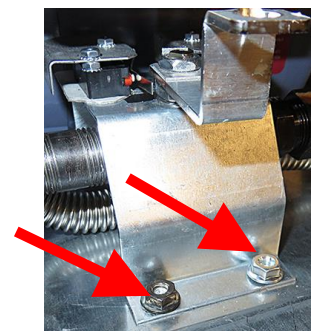

Figure 29
33. Use a 7/16" wrench to attach the switch assembly, to the four studs on the filter pump mounting plate using 4 - 1/4"-20 nuts (see Figure 29).